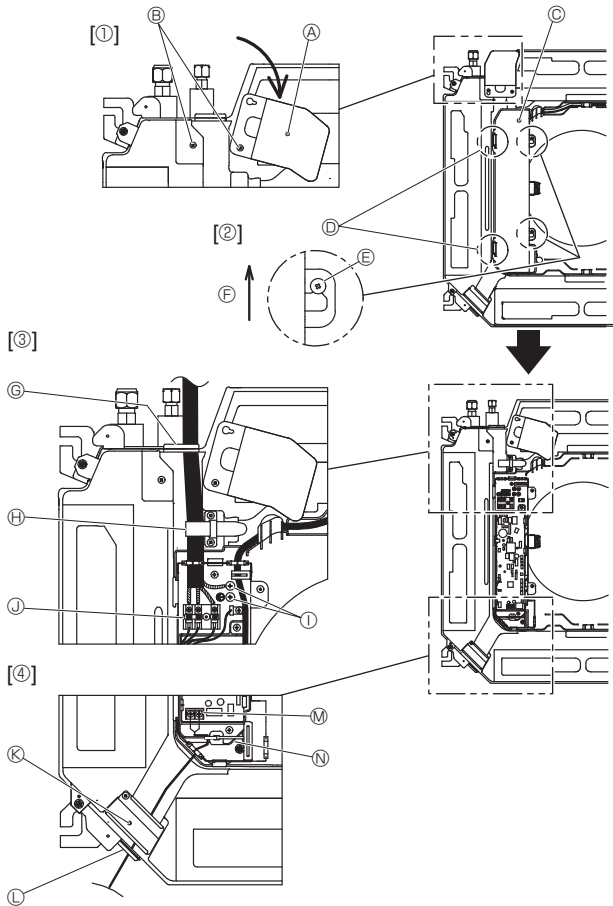
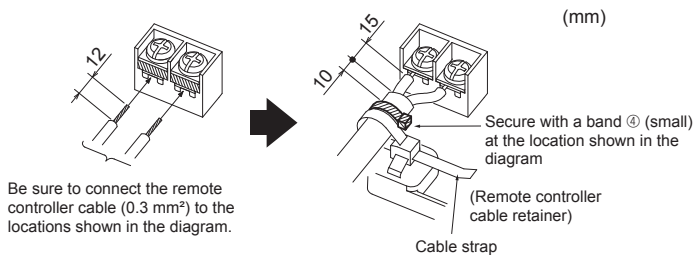

Fig. 6-1
Fig. 6-3
6.1. Indoor unit (Fig. 6-1)
- Loosen the two screws securing the electrical wiring service panel, and then turn the electrical wiring service panel. [Fig. 6-1 ①]
- Loosen the two screws securing the electrical box cover, then slide the electrical box cover. [Fig. 6-1 ②]
- Pass the power cable, indoor/outdoor unit connecting cable and ground wire through the wiring entries given in the diagram. [Fig. 6-1 ③]
- If you cannot use round crimped terminals, see Fig. 6-3 to 6-6.
- Pass and wire the remote controller cable through the wiring entries given in the diagram. [Fig. 6-1 ④, Fig. 6-3]